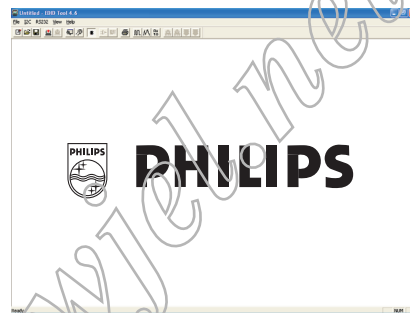

Fig. 7
- 4. Click **OK** button. The main menu appears (as shown in Fig. 7). **This is for initialize alignment box.**